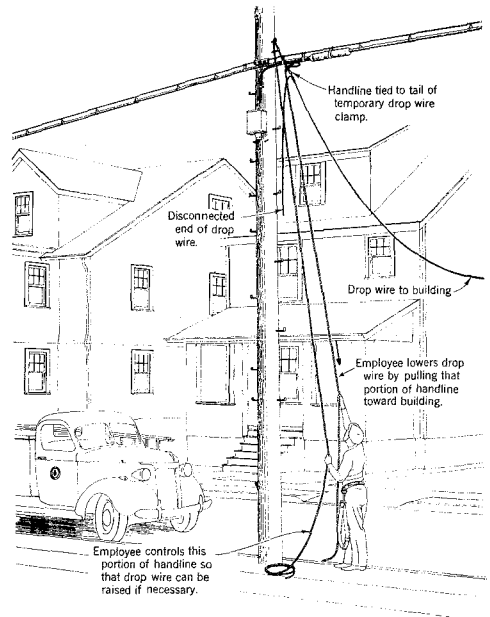

Fig. 1 – Lowering Drop Wire
- (1) Lash a handline securely to the base of the pole at a point on the handline which will leave a sufficient length on the ground so that this end will be accessible from the ground until the wire has been lowered to the street.
- (2) Place the other end of the handline over the strand, guard arm, drive hook, or crossarm so that this end is toward the building and reaches the ground. If practicable, the handline may be formed into a coil at one end and thrown over the strand. If the drop wire passes through a tree in the immediate vicinity of the pole attachment, place the handline so that it follows the route of the wire through the tree. A wire raising tool may be used to facilitate this operation. After the handline has been placed, tie it to the base of the pole to avoid interference with pedestrians or vehicles.
- (3) Disconnect the drop wire from the terminal and remove the free end from the wiring rings on the pole.
- (4) Place a temporary drop wire clamp on the wire to be lowered, about one foot out in the span. Seat the clamp firmly on the wire.
- (5) Tie a loop of the handline to the tail of the temporary drop wire clamp so that the lashed end of the handline is sufficiently taut to remove tension from the original drop wire clamp.
- (6) Remove the original drop wire clamp from the wire span, thus leaving the wire supported by the temporary drop wire clamp and the lashed handline.
(7) Return to the ground. Untie the handline from the base of the pole and, when no vehicles or pedestrians are approaching, lower the drop wire to the ground by pulling that portion of the handline toward the building. The portion of the handline on the opposite side of the strand should pass through the employee's hand as shown in Fig. 1 in order that he may be able to pull the handline in either direction to work the drop wire among the branches of a tree or to raise the wire quickly if necessary.
(8) After the wire has been lowered to the street or highway, remove the temporary drop wire clamp from the wire, tie the handline to the base of the pole, and remove the wire from the street or highway.